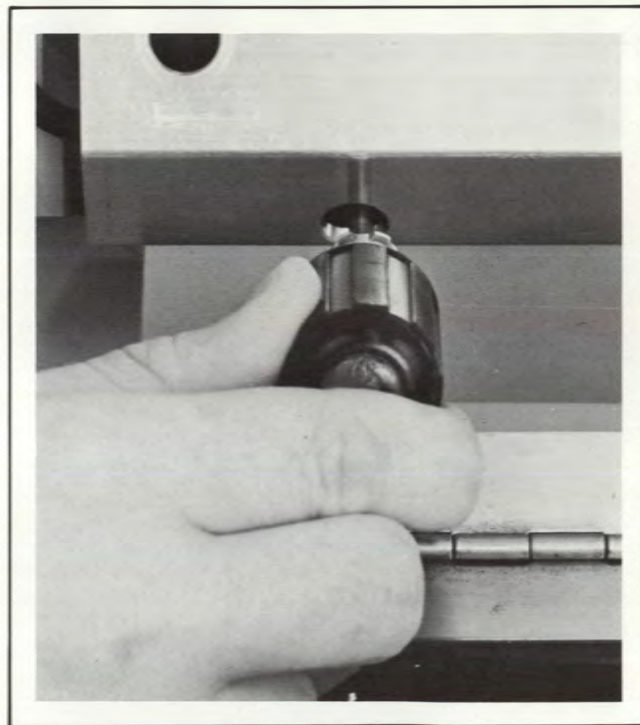

FIGURE 3-18. X-AXIS TRACK BEARING ADJUSTMENT
- b. Move pen arm until it is opposite access slot (see Figure 3-18).